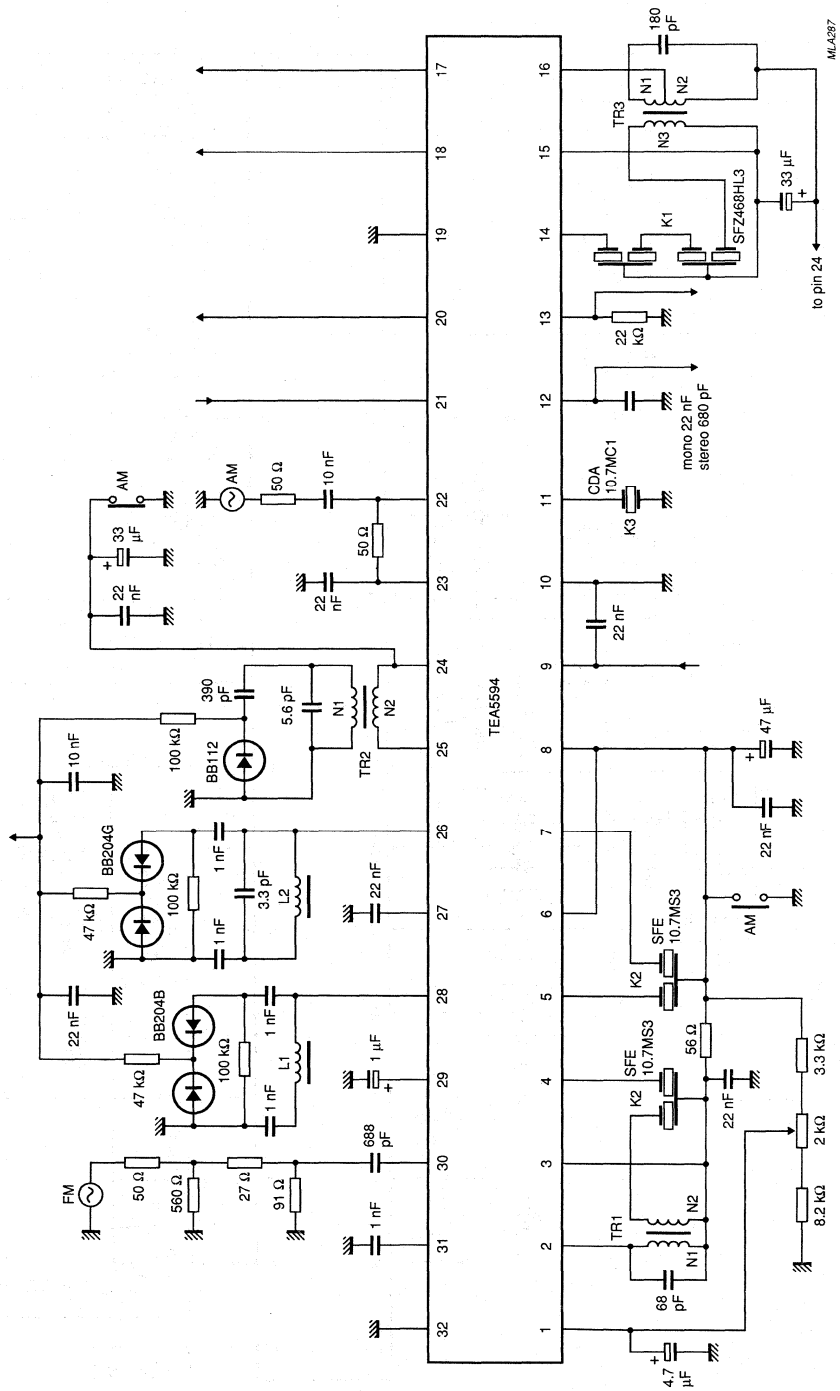

Fig.5 Application circuit for evaluation.
4. Front-end connected to IF plus detector part (see Fig.5). Input frequency = 1 MHz; m = 80% modulated with $f_{\text{mod}} = 1 \text{ kHz}$.